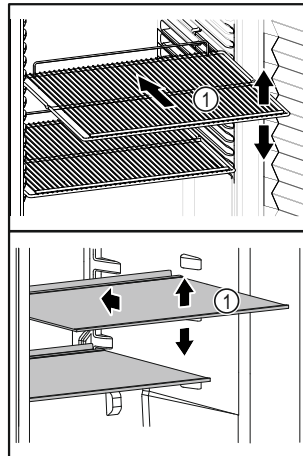

Fig. 10 Example illustration
- ❑ If storage surfaces Fig. 10 (1) are movable, adjust them according to height.